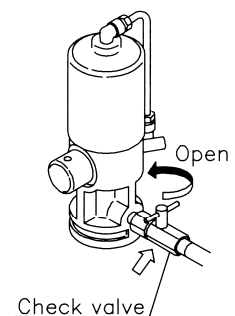

Fig. 5
- 7) The first applied grease includes the internal air of the pump. This is not a good condition. Obtain a perfect condition by the next operation. First open the check valve and operate the pump until grease is discharged from a small hole under the check valve. After grease is discharged in a perfect condition, close the check valve. At this time, spread paper so that grease may not come into touch with the hand, and dispose of the discharged grease. (Fig. 5)